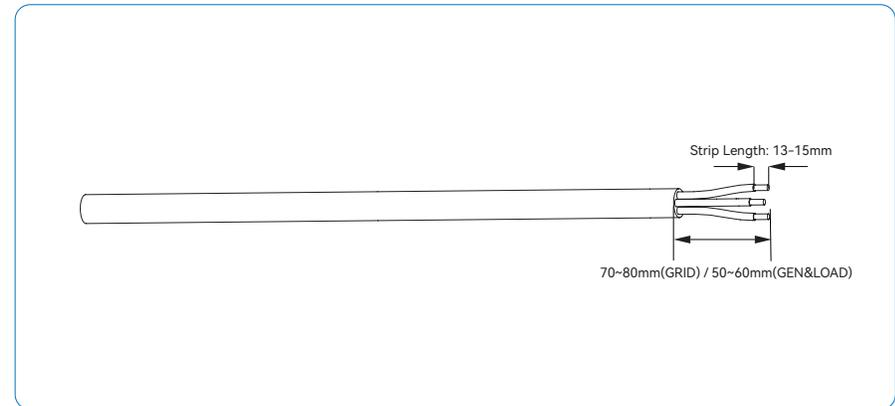

Figure 5-11
1) Select an appropriate AC cable, peel off the jacket of AC cable for 70~80mm(GRID) or 50~60mm(GEN&LOAD), and peel off the insulation sleeve in the conductor core of L/PE/N wires for 13~15mm, as shown in Figure 5-11: